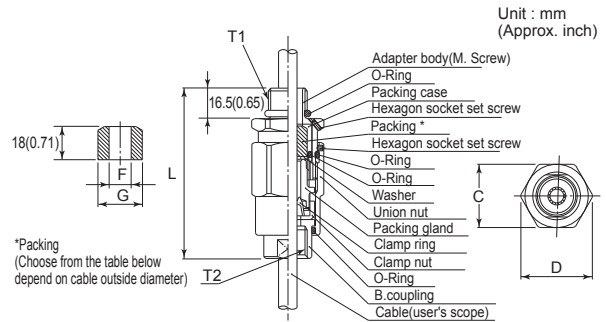

Figure 10.5.1 Flameproof Packing Adapter
- (c) Calculate the average of the two diameters, and use packing with an internal diameter nearest to this value (see the table of Figure 10.5.1).